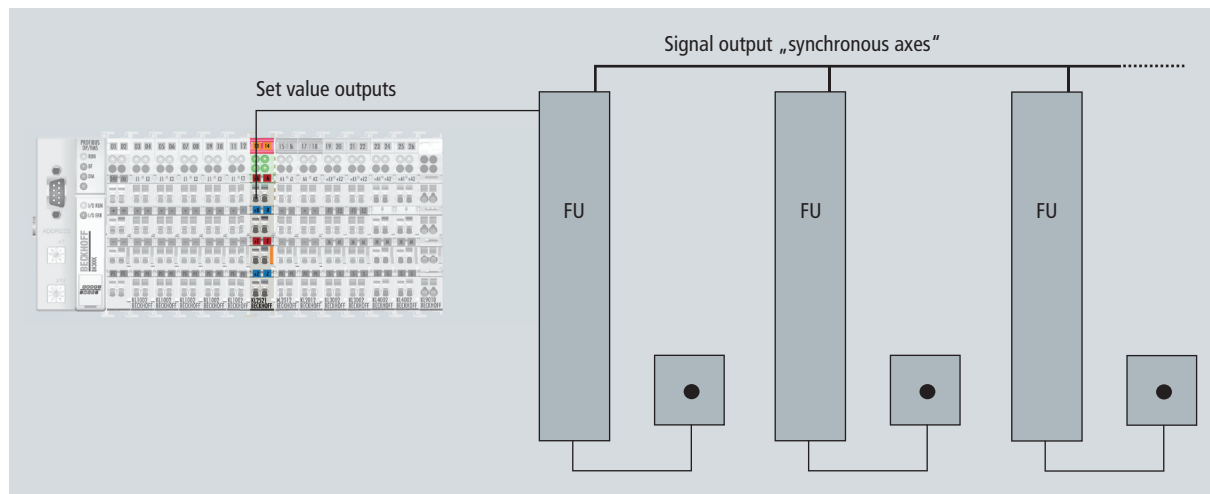

Fig. 4 Synchronisation of several frequency converters via incremental encoder simulation
- Incremental encoder simulation: channels A and B output a signal with a 90° phase shift. The shift from A to B is positive or negative, thus encoding the direction of rotation. The output signal is thus exactly the same as that of an incremental transducer. The advantage here is the possibility of directly driving frequency converters through the „synchronous axes“ signal input (Figure 4). Ontop of the simple positioning, this arrangement permits a master/slave structure. Users can therefore couple this system to fieldbusses through existing interfaces - i.e. without additional costs.